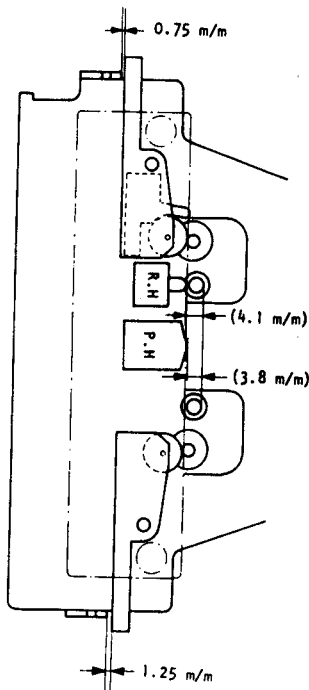

Fig. 6.9
- (1) Check to insure whether any of the heads is not in contact with the cassette housing.
- (2) Check to insure whether the pressure roller is located in parallel with the capstan shaft (Also check to insure whether the heads are free from dust or dirt, and whether the pressure roller arm is free from bending).
- (3) Check to insure whether the surface of the pressure roller is globular not straight. Other than the above that is straight type, concaved, or oiled surface shall be subject to replacement.
- (4) The pressure of the pressure roller shall be 400g±50g.
- (5) Adjustment of Pressure Roller Timing.
a. Refer to Fig. 6.9.